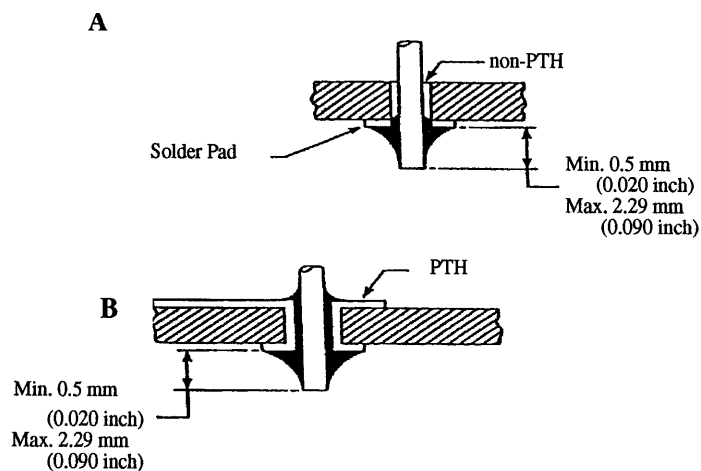
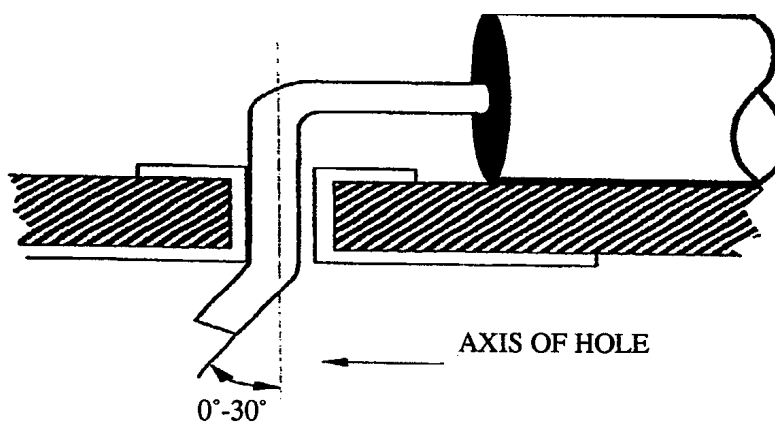

Figure 8-18. Straight-Through Termination
Figure 8-19. Straight-Through Lead Retention
3. Straight-Through Lead Terminations. Part leads terminated straight through the PWB shall extend a minimum of 0.5mm (0.020 inch) and a maximum of 2.29mm (0.090 inch) (Figure 8-18). The minimum lead length shall be determined prior to soldering (actual measurement is not required except for referee purposes). Straight-through leads may be bent up to 30° from a vertical plane to retain parts during the soldering operation (Figure 8-19). Nonbendable leads shall not be bent.